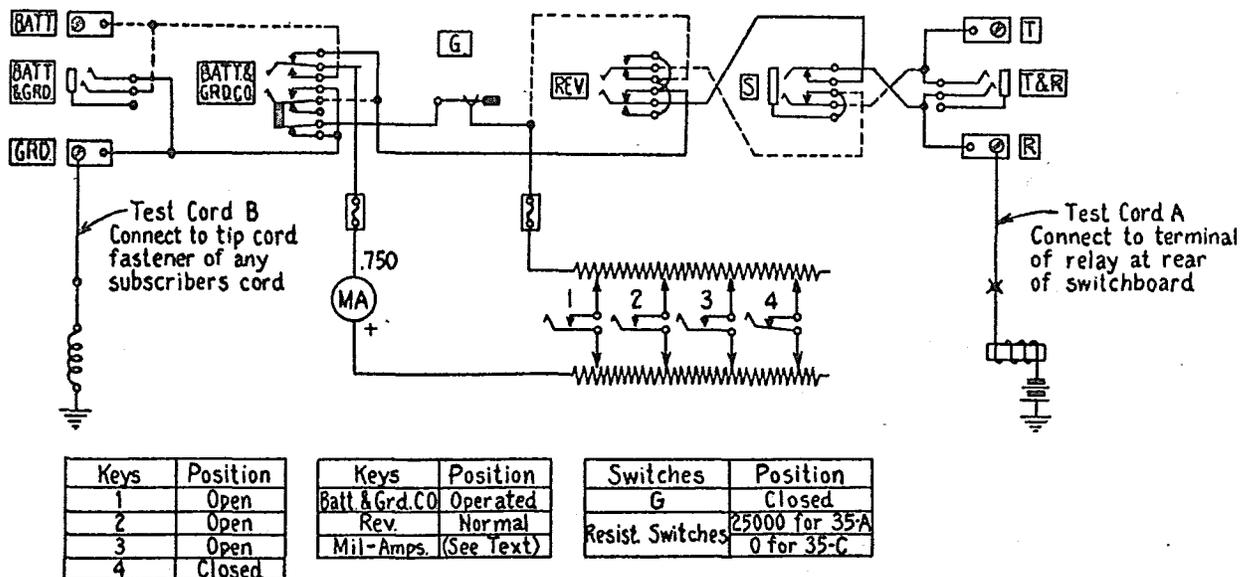

Fig. 1
- 3.2 Arrange the test set keys and switches as shown in Fig. 1, for relays having battery on the winding.